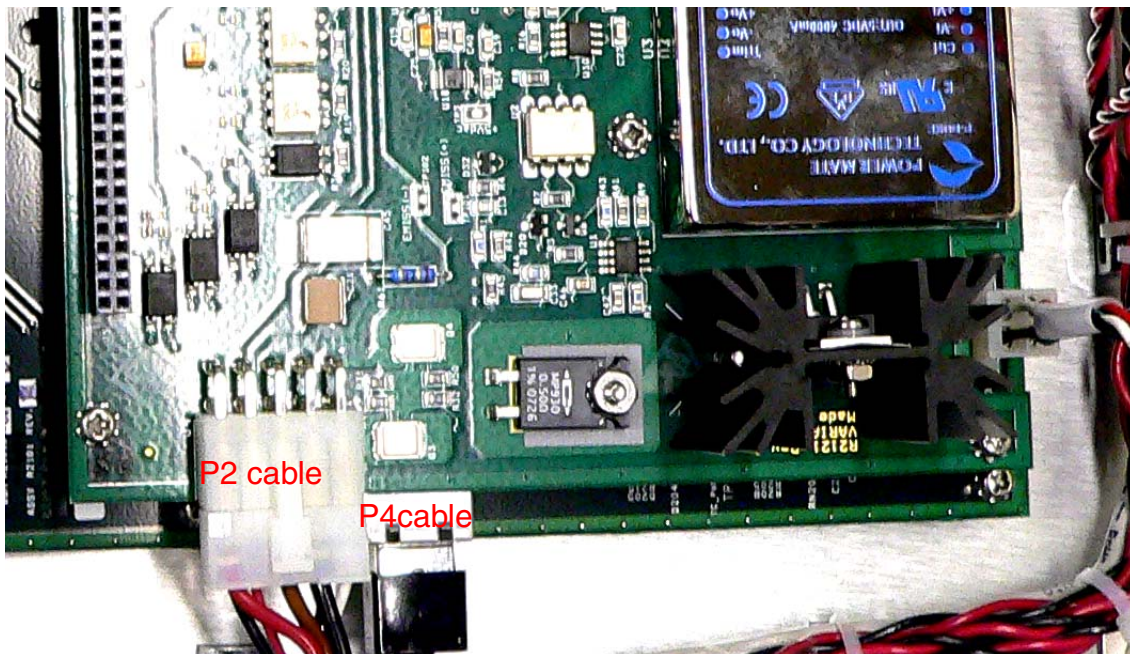

Figure B-32 Connections
4. Remove the following connections (Figure B-32):
8. Reinstall the following connections (Figure B-32 on page B-22):
9. Reinstall the five (5) Philips head screws and washers.